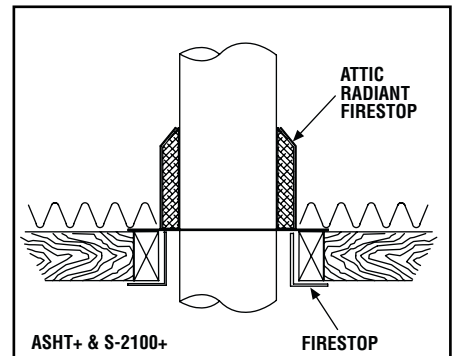
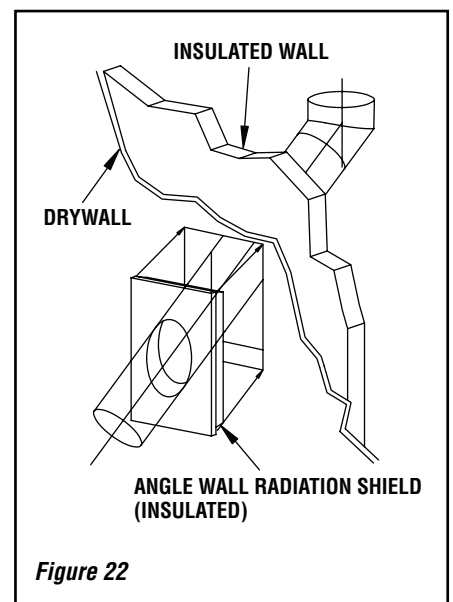

Figure 17A
Figure 22
From below, install a firestop in each ceiling/floor separation through which the chimney will pass. At the attic level, install an attic radiation shield from above (*see Figures 17A and 17B*).
1. Install the first elbow. Turn it in the required direction. Fasten it to the chimney with the three (3) 1/2" (12mm) metal screws provided.
2. Install the necessary lengths to achieve the required offset. Lock the chimney lengths together: it is recommended to use three (3) 1/2" (12mm) screws. If the offset length is made of two (2) chimney lengths use an offset support halfway up the offset. If penetrating a wall, install a wall radiation shield (see **Figure 22**).
3. Use another elbow to turn the chimney vertically. Secure the elbow, using three (3) 1/2" (12mm) screws.
5. From below, install a radiation shield (**Figure 17A**).
2. Install the necessary chimney lengths to achieve the required offset. Lock the chimney lengths together. If penetrating a wall, use a wall radiation shield (**Figure 22**).
When traversing a combustible wall with the chimney at a 30° or 45° angle, an angled firestop and/or wall radiation shield must be installed. Only one is required (Figure 22). Table 6 gives recommended hole size for installing a wall radiation shield.